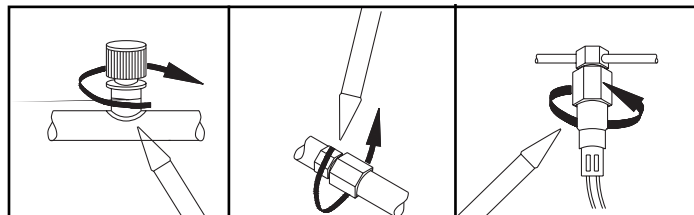

FIG 6
5. At each area checked, the probe should be moved around the location, at a rate no more than 25 to 50 mm/second (1-2 in/second), and no more than 6.35mm (1/4 in.) from the surface, completely around the position. Slower and closer movement of the probe greatly improves the likelihood of finding a leak (see fig. 6). Any increase in beep rate is indicative of a leak.